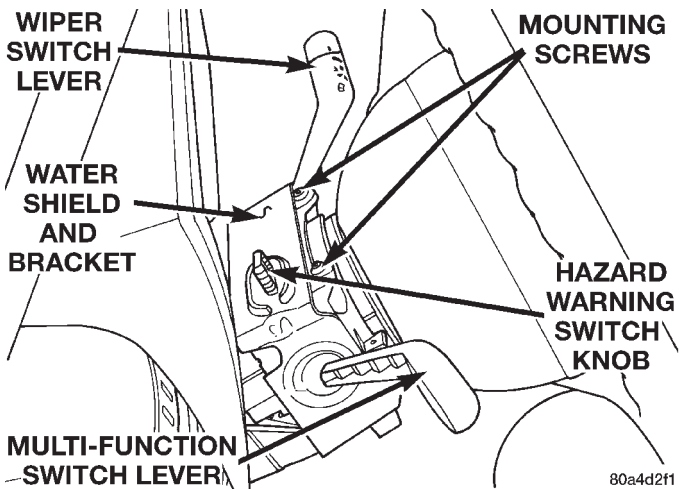

Fig. 14 Water Shield Upper Screws Remove/Install
(4) If the vehicle is equipped with a standard non-tilt steering column, loosen the two upper steering column mounting nuts. If the vehicle is equipped with the optional tilt steering column, move the tilt steering column to the fully lowered position.
(5) Remove both the upper and lower shrouds from the steering column.
(6) Remove the two screws that secure the switch water shield and bracket to the top of the steering column (Fig. 14).